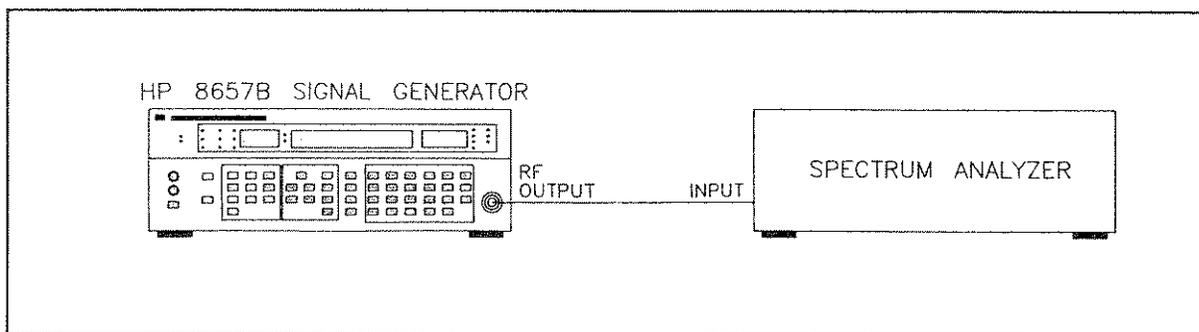

Figure 4-1. Spurious Signals Test Setup
3. Connect the RF OUTPUT of the HP 8657B to the input of the spectrum analyzer as shown in Figure 4-1. Verify that all harmonics are < -30 dBc 0.1 to 1030 MHz, all harmonics are < -25 dBc 1030 to 2060 MHz, all non-harmonics 2 MHz from the carrier are < -60 dBc 0.1 to 1030 MHz, all non-harmonics 2 MHz from the carrier are < -54 dBc 1030 to 2060 MHz, all non-harmonics 5 KHz to 2 MHz from carrier are < -72 dBc, < -66 dBc, < -60 dBc, < -54 dBc for each frequency band shown in the table, there are no sub harmonics as the frequency is incremented from 100 kHz to 1030 MHz and sub harmonics are < -45 dBc as the frequency is incremented from 1030 to 1800 MHz, and are < -35 dBc as the frequency is incremented from 1800 to 2060 MHz.